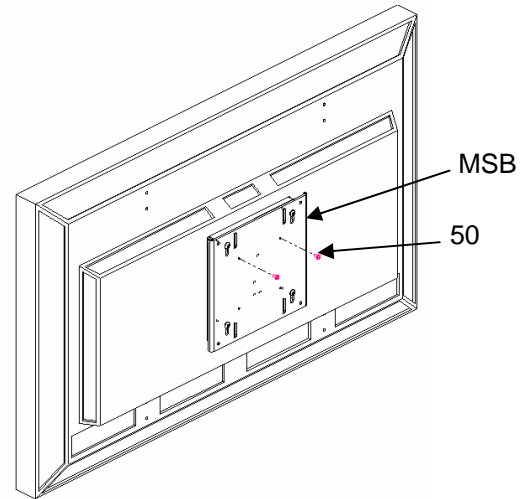
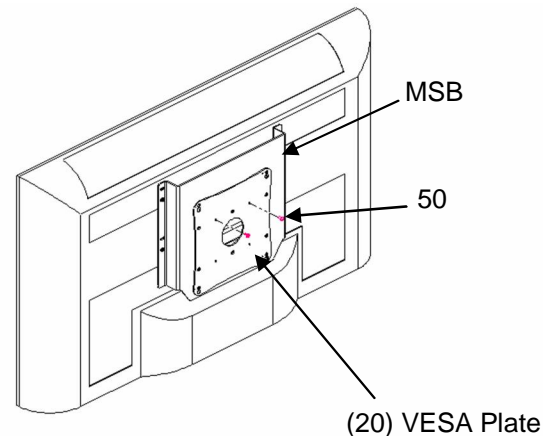

Figure 11. MSB without VESA Plate
Figure 12. MSB with VESA Plate
1. Start two M4 x 8mm Phillips pan head screws (50) into top mounting holes of VESA Plate (20) or MSB interface bracket, depending on configuration (see Figure 11 or Figure 12).